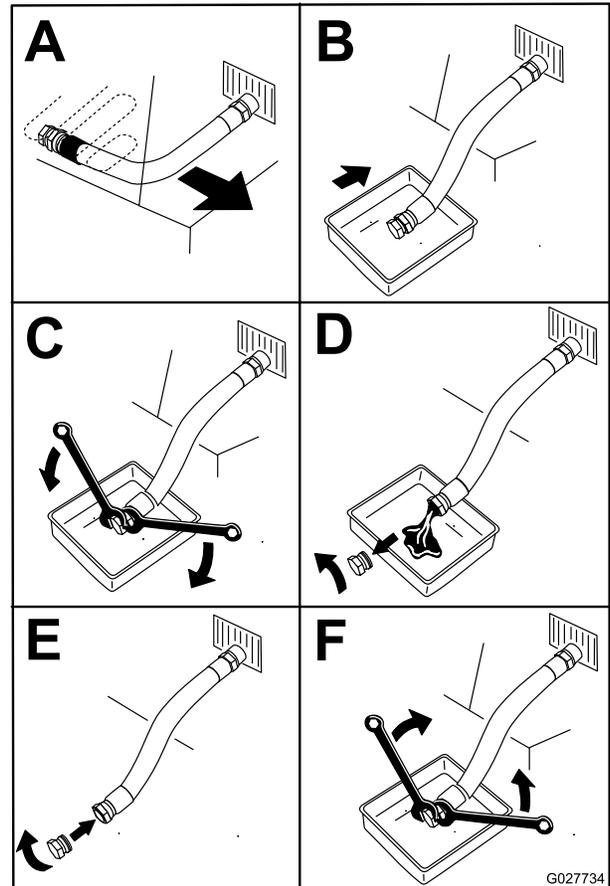

Figure 52
5. Drain the oil from the engine (Figure 52).